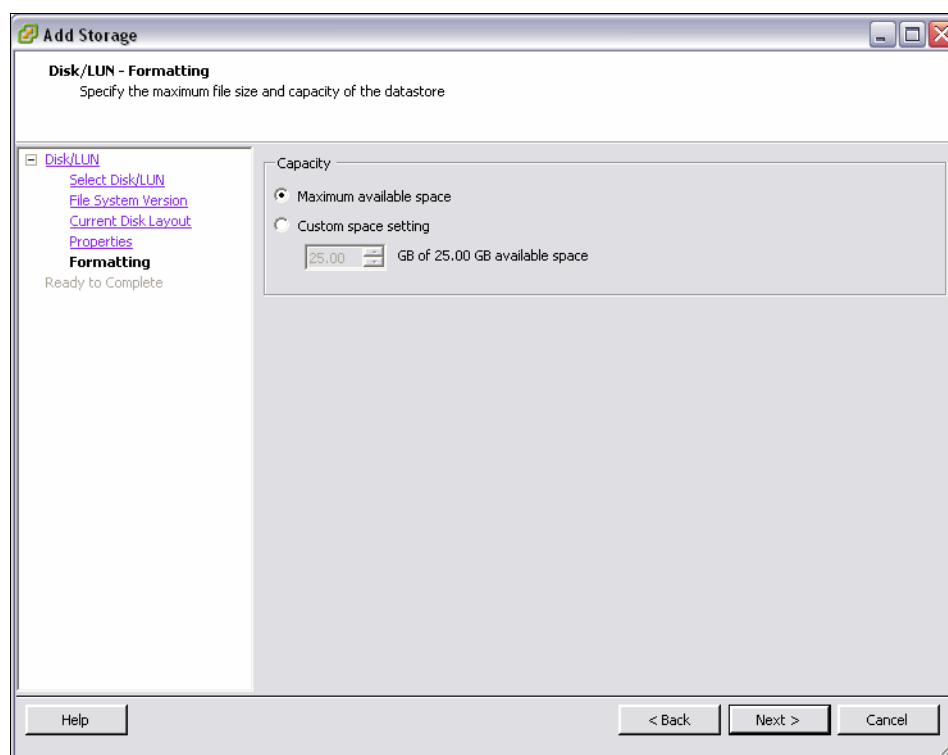

Figure 5-72 Capacity
13. Select the Maximum available space and click **Next**, as shown in Figure 5-72.